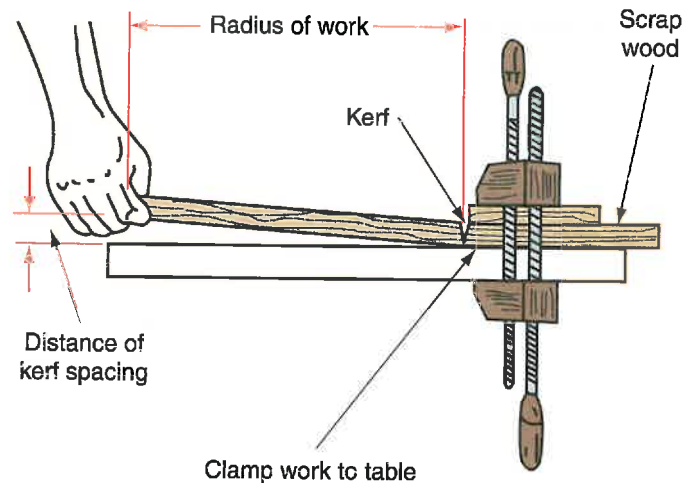

Figure 34-7. The distance between kerfs is found by bending a sample piece of material.
1. Cut a test board the exact width and thickness, but longer, than the apron pieces. See Figure 34-7.